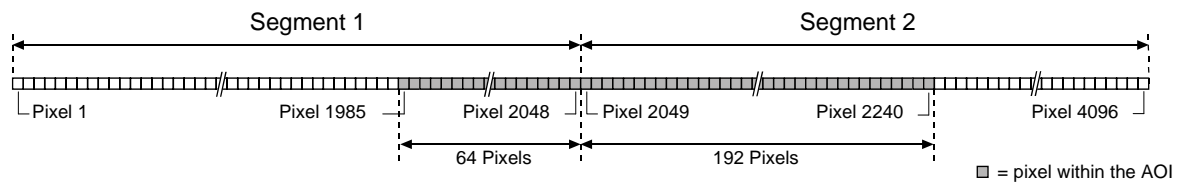

Fig. 33: AOI Falling Across Segments
- Suppose that for a 4k camera, the AOI starting pixel is set for 1985 and the length is set for 256. With these settings, the AOI falls across the two sensor segments as shown in Figure 33.